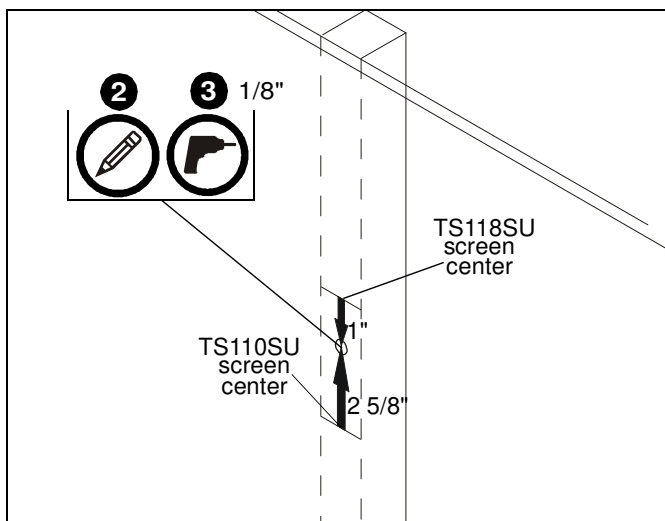

Figure 1
2. Measure 2 5/8" above desired center line if mounting TS110SU or 1" below desired center line if mounting TS118SU and mark a hole at this location. (See Figure 1)
3. Drill one 1/8" hole at location marked in Step 2. (See Figure 1)